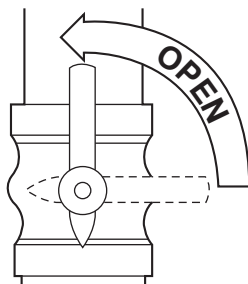

Fig. 14 - Open Valve
9. Open the external manual gas valve. (See Fig. 14.)